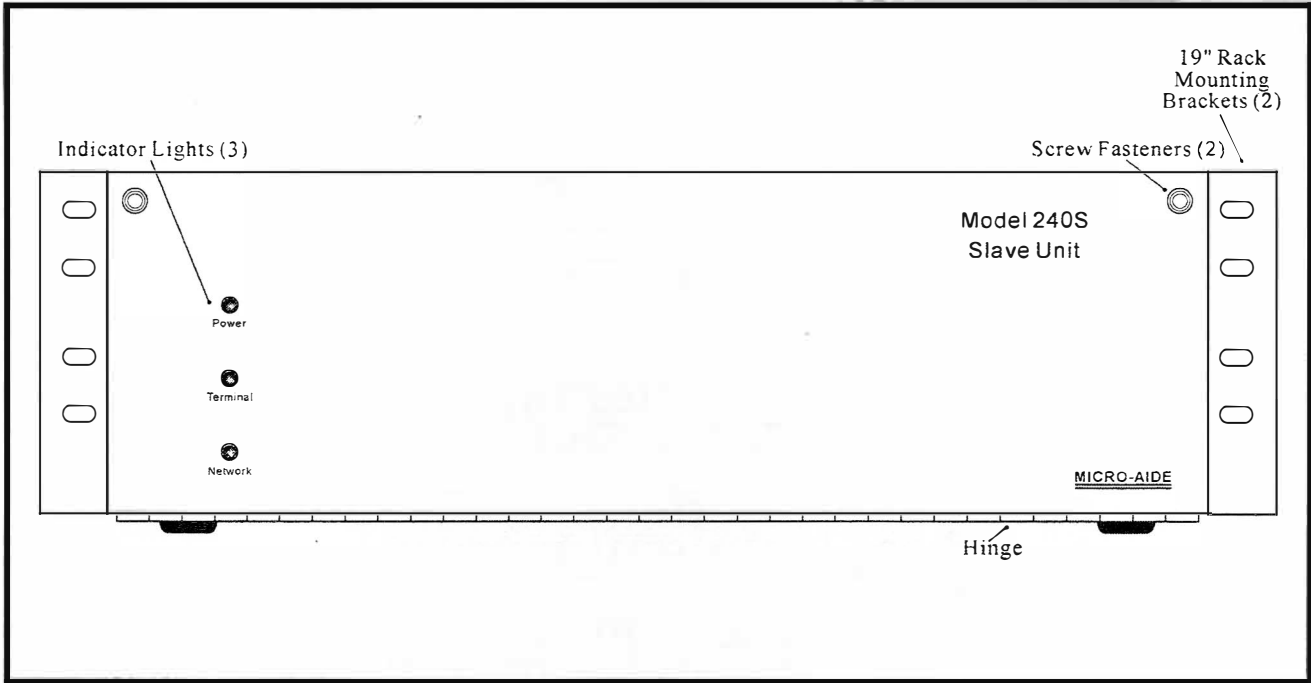

Figure 4
- Open the hinged, front cover of the Model 240S chassis by turning the two screw fasteners counter-clockwise. Refer to Figure 4.